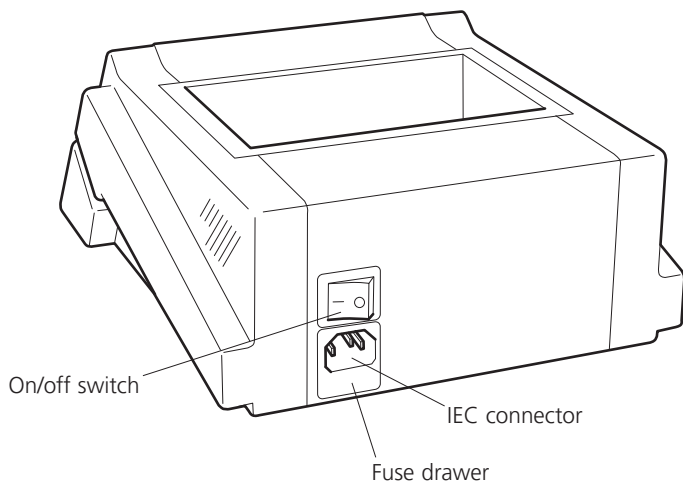

Figure 2: Rear view
1. Switch on using the switch located at the rear of the instrument – see figure 2.
- Switch on using the switch located at the rear of the instrument – see figure 2.